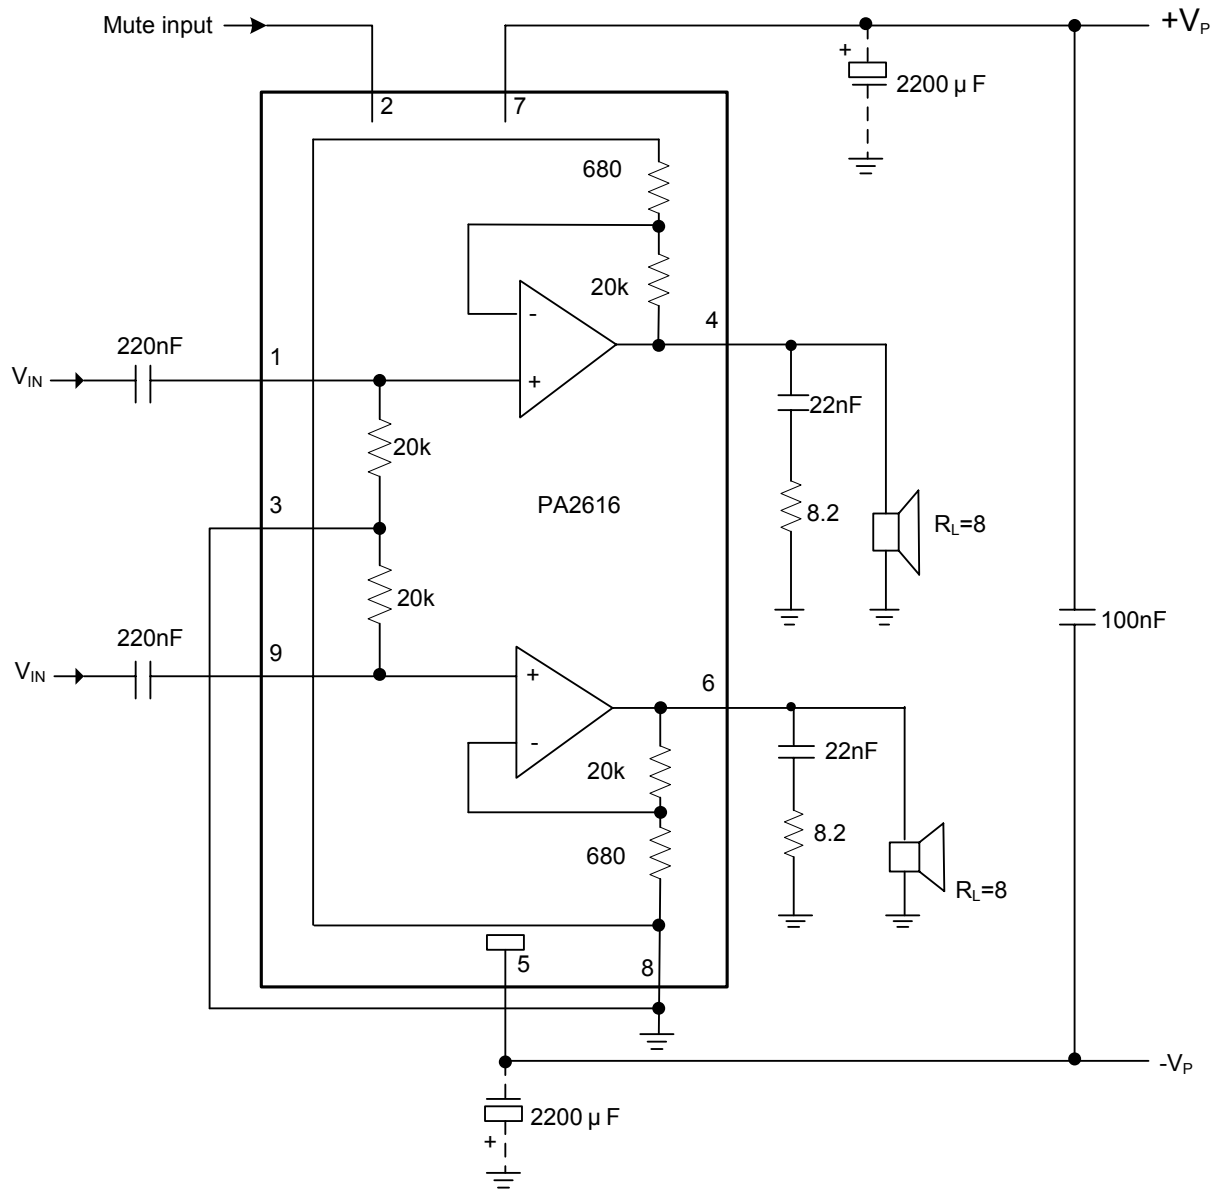

Fig. 1 Test and Application Circuit with Symmetrical Power Supply
Note: 1.  $V_P = \pm 16$  V;  $R_L = 8 \Omega$ ;  $T_a = 25 \text{ }^\circ\text{C}$ ;  $f = 1$  kHz; symmetrical power supply  $I_{MUTE} < 30 \mu A$ . See Fig. 1
5.  $\pm V_P = 4$  V;  $R_L = 8 \Omega$ ;  $T_a = 25 \text{ }^\circ\text{C}$ ;  $f = 1$  kHz; symmetrical power supply. See Fig.1